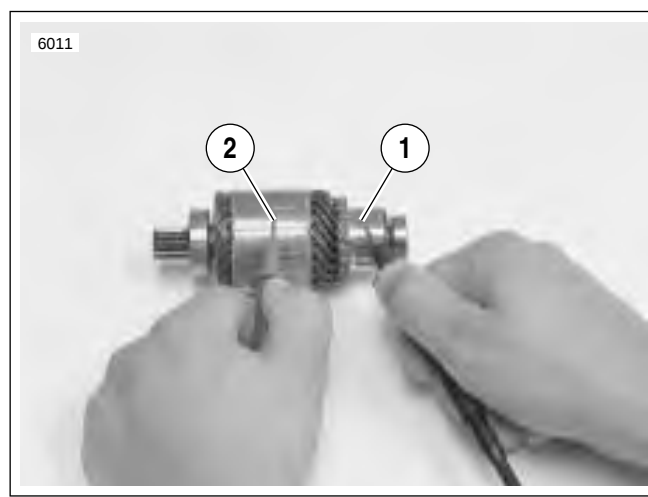
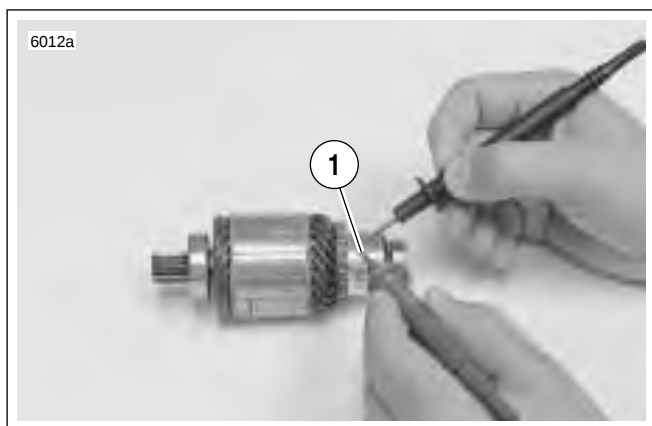

Figure 5-20. Grounded Armature Test
Figure 5-21. Open Armature Test
10. See Figure 5-20. Check for a GROUNDED ARMATURE with an ohmmeter or continuity tester.
- Touch one probe to any commutator segment (1).
- Touch the other probe to the armature core (2).
11. See Figure 5-21. Check for OPEN ARMATURE with an ohmmeter or continuity tester.
- a. Check for continuity between all commutator segments (1).